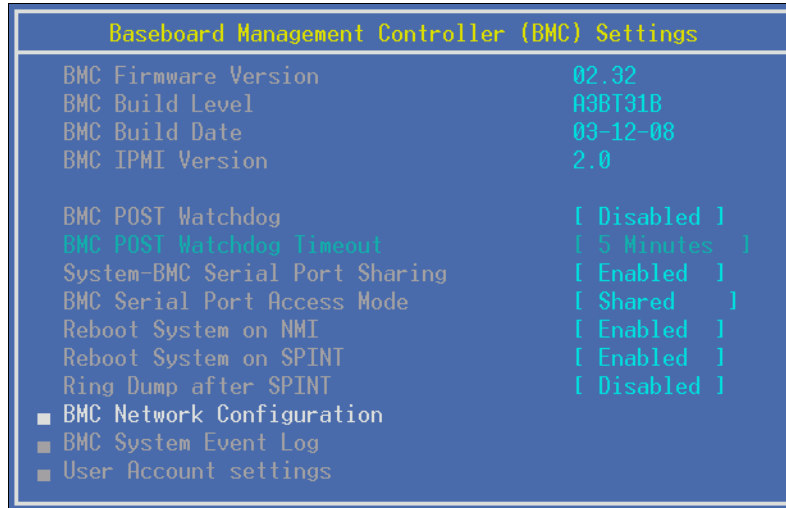

Figure 6-1 BIOS: BMC configuration settings menu
2. Select the **Advanced Setup** → **Baseboard Management Controller (BMC) Settings**. The BMC menu is shown in Figure 6-1 on page 303.
You can access the **BMC System Event Log (SEL)** through the menu shown in Figure 6-1 on page 303, or by using tools such as OSA SMBridge, SvcCon, Dynamic System Analysis (DSA), or IBM Director.